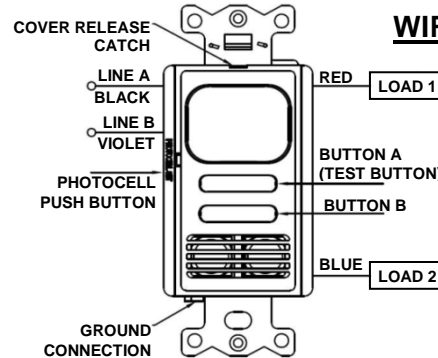
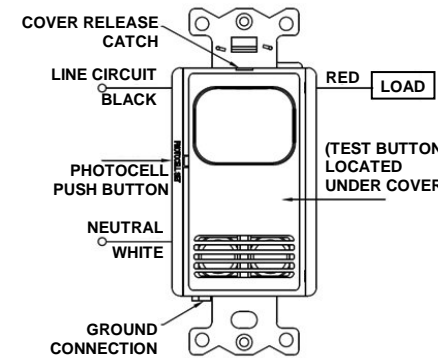
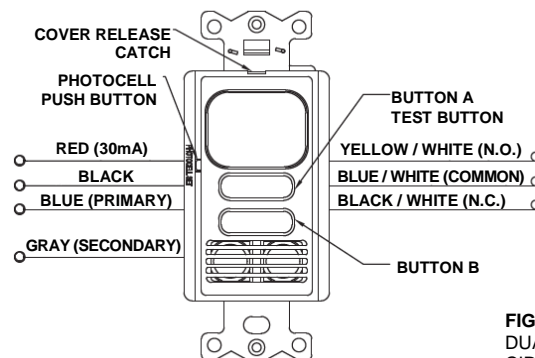

FIGURE 1
FIGURE 3
FIGURE 4
3. Wire as shown in the **WIRING DIAGRAMS** section. Figures 1 and 2 denote wiring method for Leakage to Ground Sensors (**Note:** A secure ground is required for proper operation). Figure 3 denotes wiring method for Neutral Wiring Sensors. Figure 4 represents wiring for low voltage sensors (**Note:** Low voltage models require one CU300xx module per output).